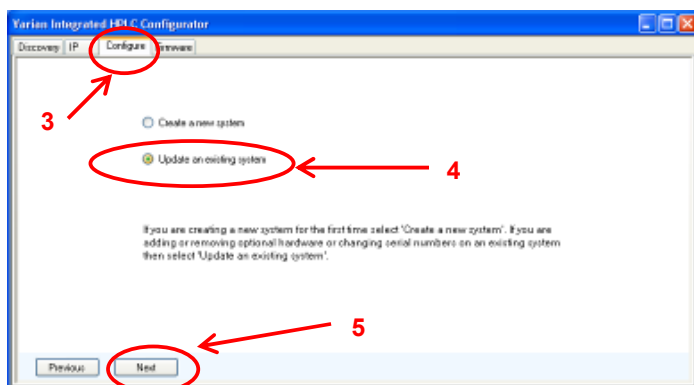

Figure 23: Configure page of the Service Configurator
4. The next screen will show the current configuration of the 940-LC. Click on the Scale-up module option in the right hand options window (Figure 23).